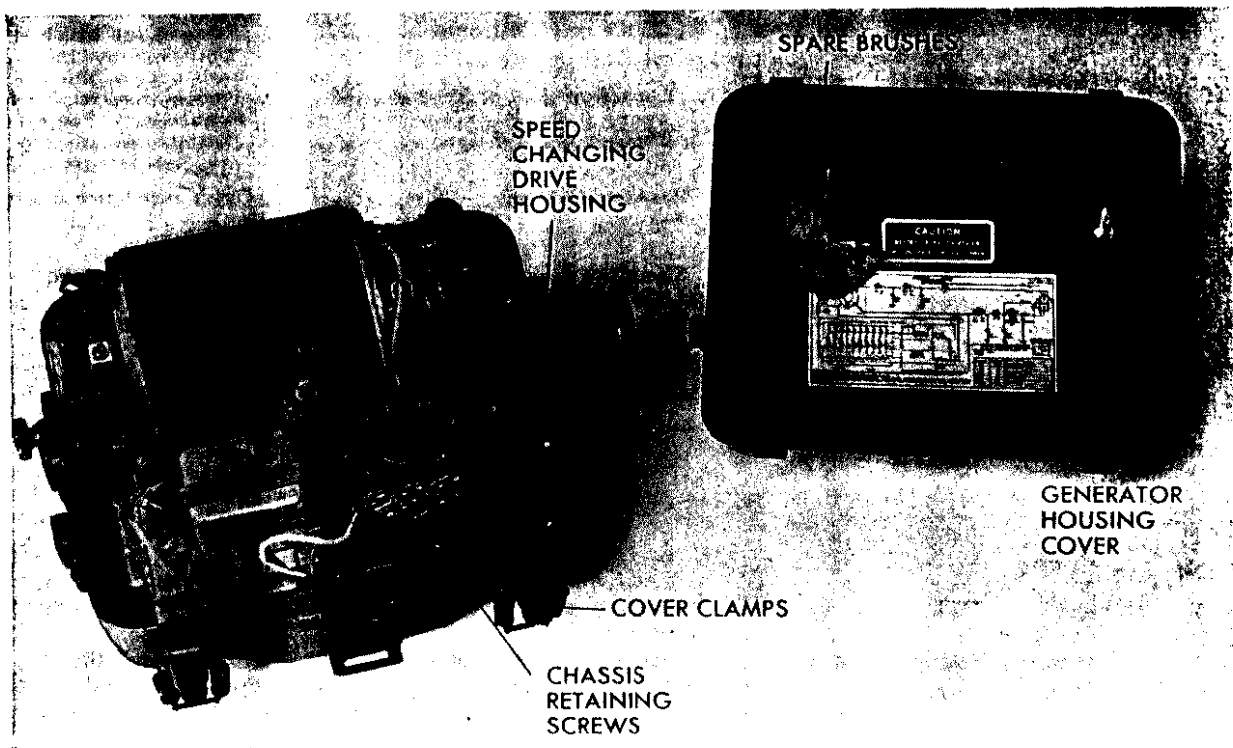

Figure 106. Generator GN-58-A-GY, disassembly illustration.
In order to test the Generator under load conditions, it will be necessary to remove the top part of the housing. To accomplish this, remove the cover clamp lock screws which fasten the cover clamps to the side of the housing. After opening the cover clamps, the top of the housing should come off easily when lifted straight up. Figure 106 shows the generator with the cover removed. Next, loosen the screw which
h. Remove the terminal strip insulating cover, shown in figure 106, from in front of panel board 239, exposing the spade lug connections on the board.
j. Next remove the seven chassis retaining screws around the top of the lower half of the housing (fig. 106).